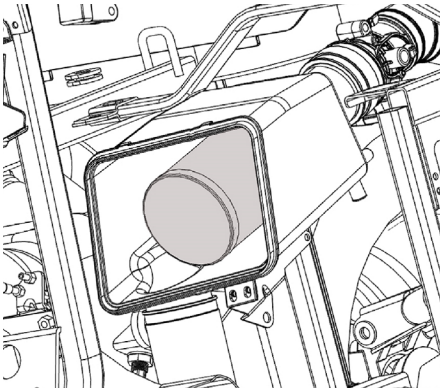

Figure 37
3. Remove the air filter element (Figure 37).